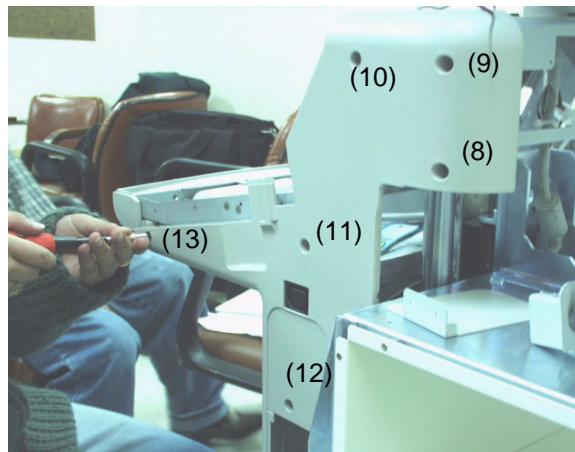

Figure 8-56 Removing the OP Side R Cover
8.) Unscrew six (6) screws (8-13) and remove the OP Side R Cover. Figure 8-56.